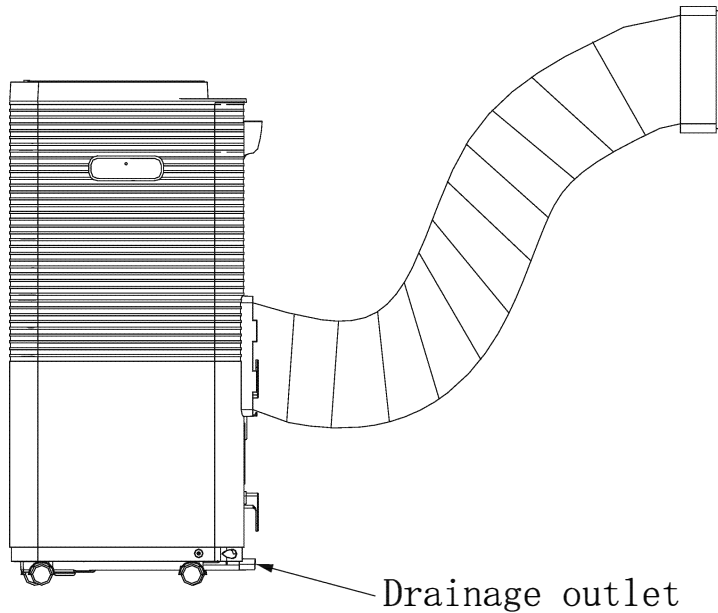

Fig 6
- 3) As shown in Fig. 6, Connect drain hose well (only for using heating model);